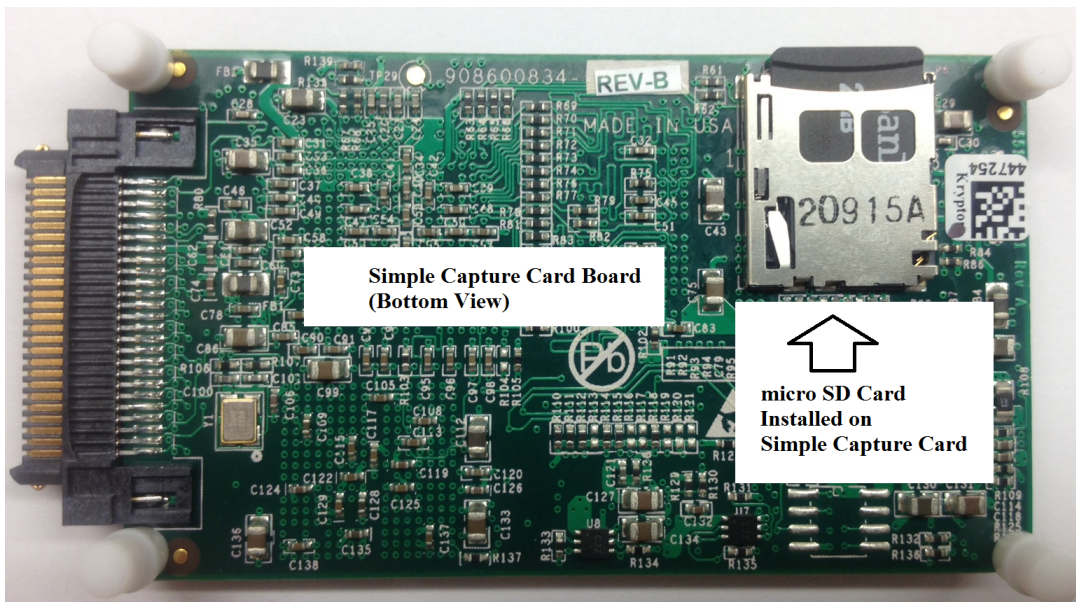
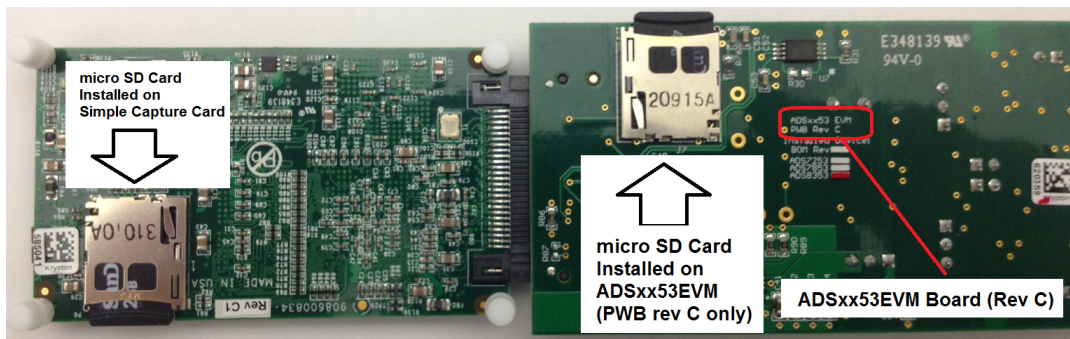

Figure 7. Bottom View of Simple Capture Card Board with micro SD Card Installed
Figure 8. Bottom View of ADSxx53EVM Rev C with micro SD Card Installed
Figure 7 illustrates the bottom view of the simple capture card controller board with the microSD card installed.
NOTE: ADSxx53EVM-PDK with ADSxx53EVM PWB Board revision C (only): This ADSxx53EVM PWB version includes (2) micro SD cards. Ensure both micro SD memory cards are installed in the micro SD sockets on the back of the simple capture card board and on the back of ADSxx53EVM, as shown on Figure 7 and Figure 8 respectively.
- Step 1. Verify the microSD card is installed on the back of the simple capture card board; see Figure 7.